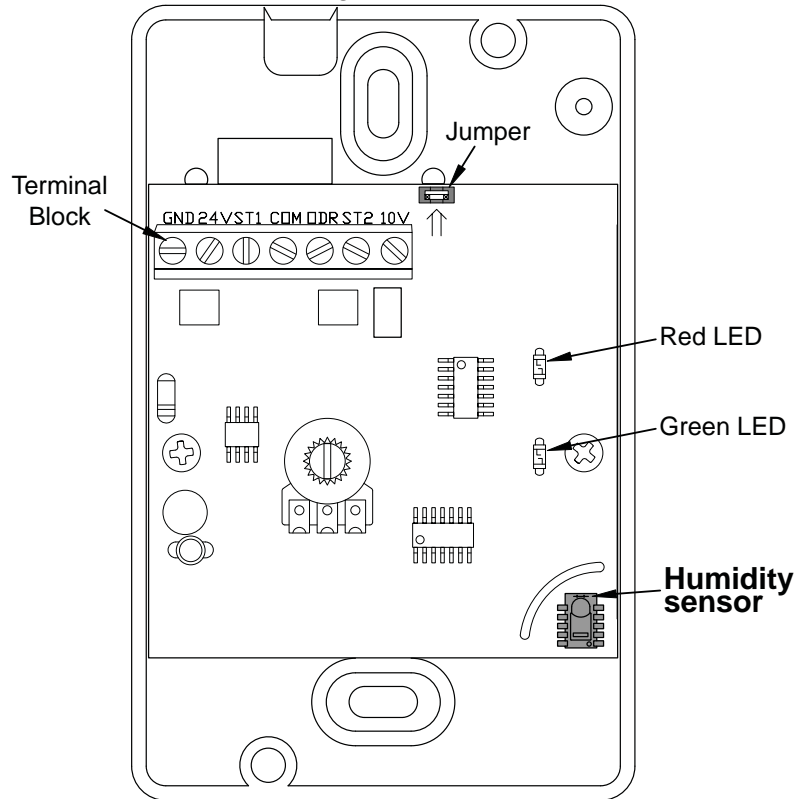

Fig. 1a Wall Mount Humidistat
1.1 The humidity sensor is located at the lower right side in the wall mount humidistat. Please see Fig.1a.